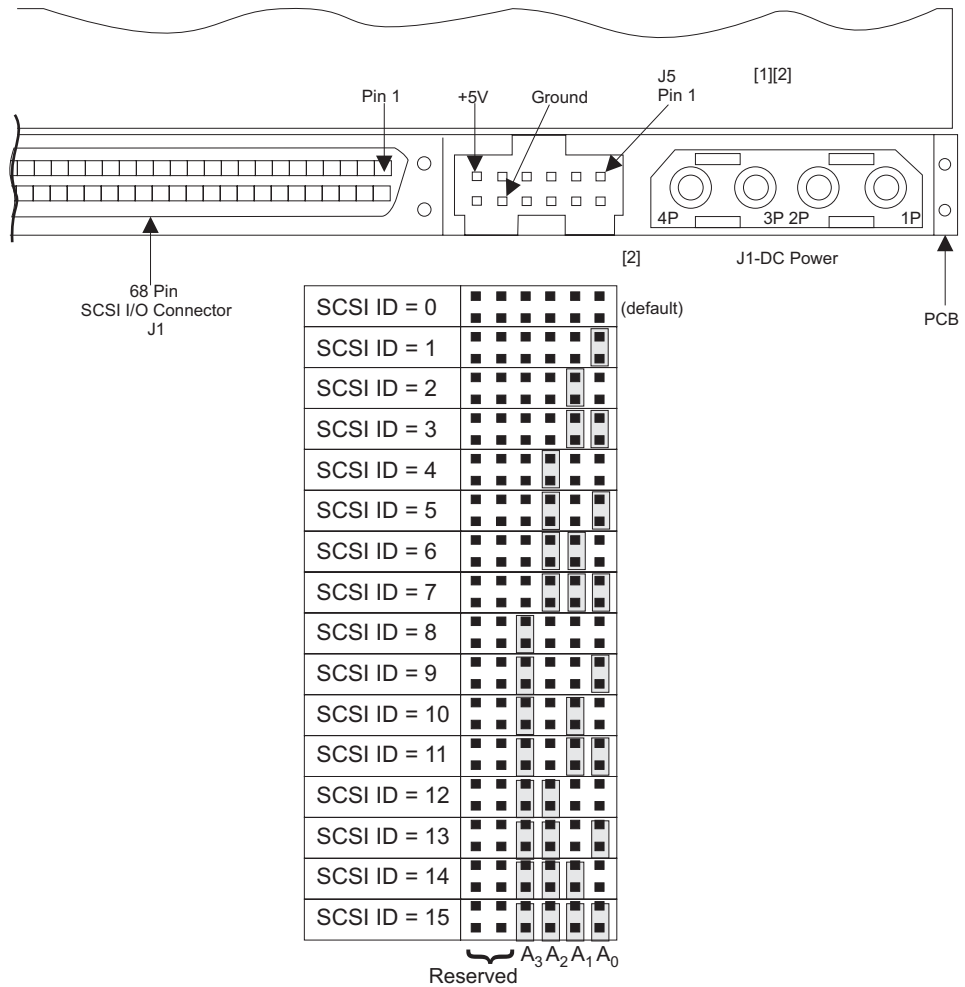

Figure 90. SAN Volume Controller 2145-4F2 disk drive jumpers
9. Check whether the old disk drive has any jumpers installed. If it does, install matching jumpers onto the new disk drive. See Figure 90.